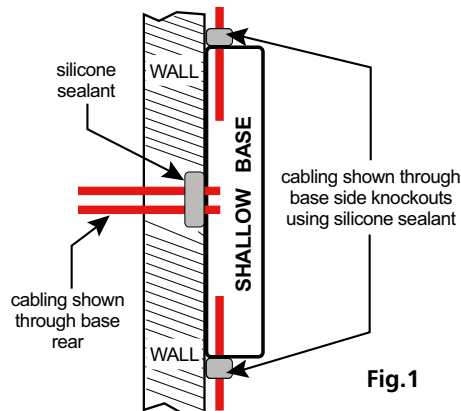
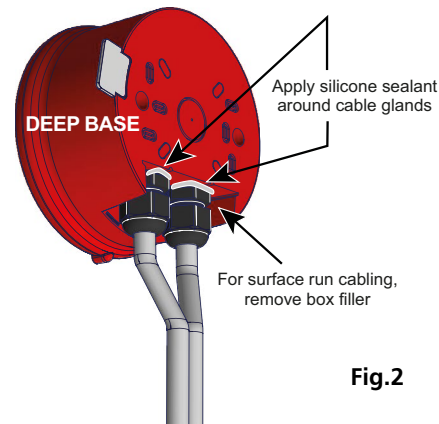

Fig.1
Fig.2
**Note when mounted on an outside wall, cables should enter the deep base from below and not from the top (unless under cover). See Fig.2 below and refer to page 3 for rotating the inner base 180 degrees.**
Where installers might have a water/moisture ingress occurrence, suggested sealing methods for shallow and deep base models are shown in Fig.1 & Fig.2 below.